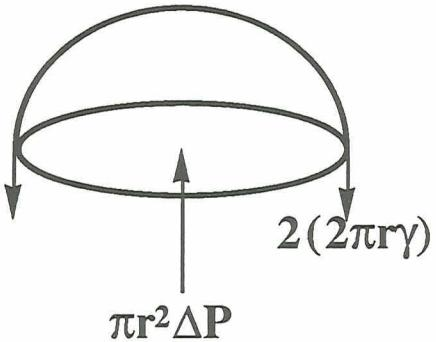

Figure 2: The forces acting on a hemispherical soap bubble in equilibrium.
The relationship between the radius of the bubble and the surface tension is found by considering equilibrium of a half bubble (Figure 2). The upward force is provided by the pressure and has a magnitude of $\pi r^2 \Delta P$. The downward force is provided by the inner and outer surfaces of the bubble; it has a magnitude of $2(2\pi r\gamma)$. Equating the two forces and solving for ΔP gives equation (1).